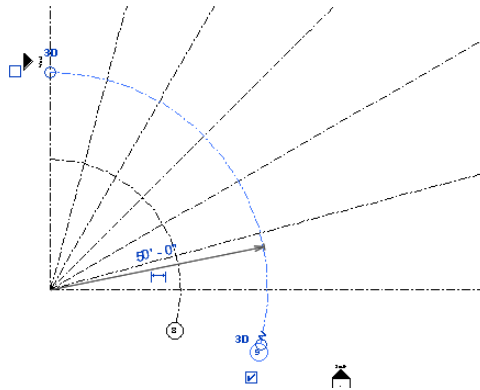

Figure 3-60 The curved grid lines created
19. Now repeat steps 15 to 18 to create a curved grid line with a radial distance of **50'** from the start point of the first grid, refer to Figure 3-60.